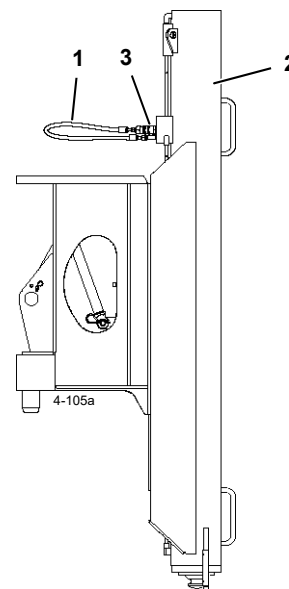

FIGURE 4-37
Connect hydraulic hose (1, Figure 4-37) from jack (2) to coupler (3) on jack for following conditions: